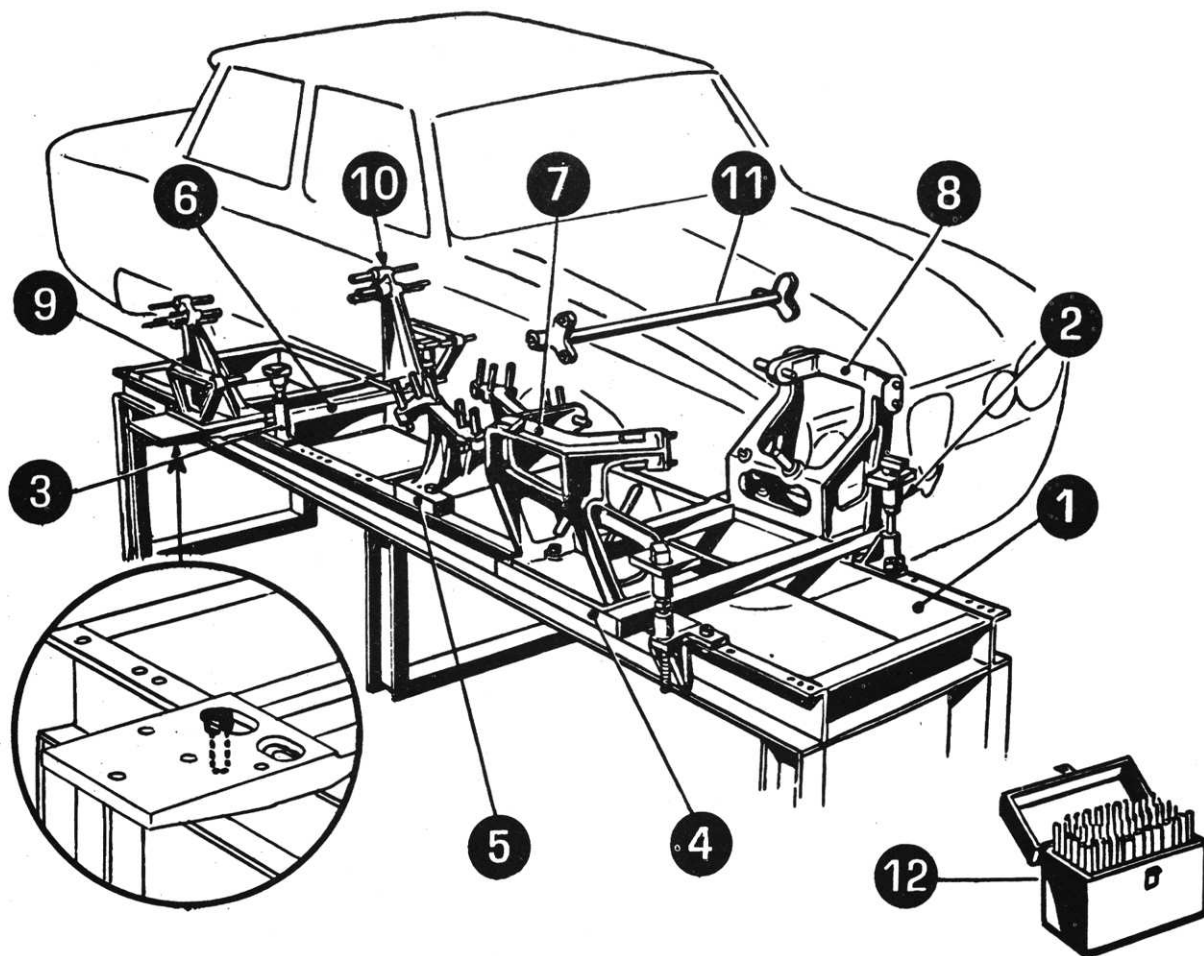
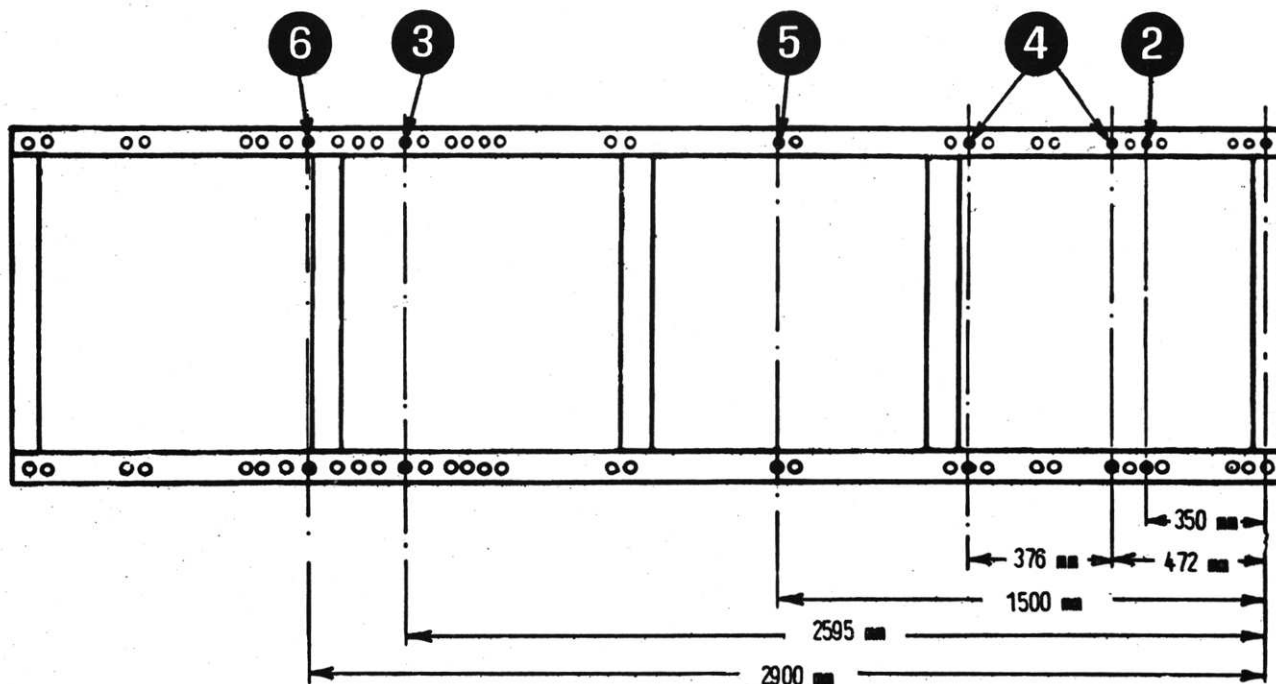
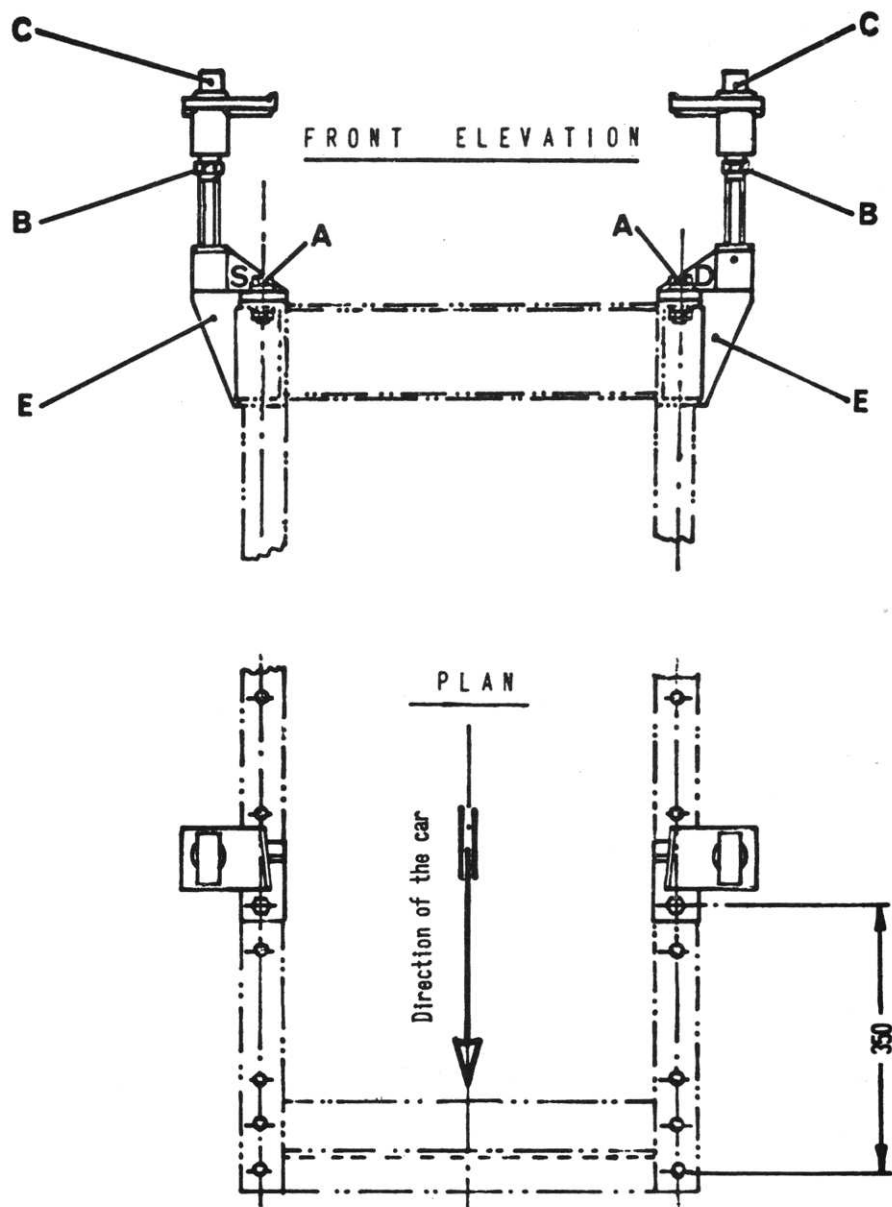
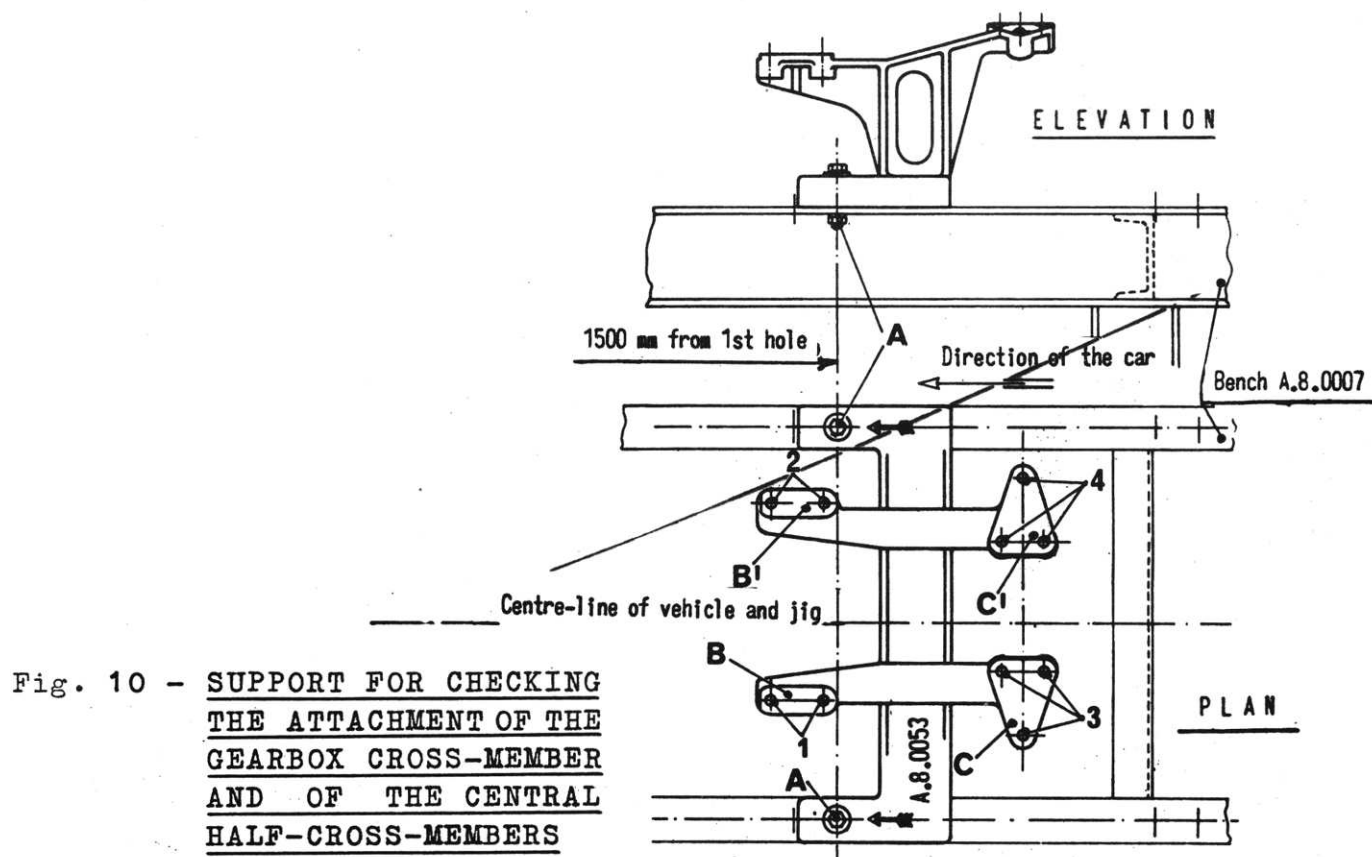

Fig. 1 - ASSEMBLY FOR CHECKING GIULIA TI AND GIULIA TI SUPER CHASSIS
Fig. 2 - PLAN OF DETAIL ① WITH LOCATION OF THE HOLES TO BE EMPLOYED
Fig. 5 - FRONT JACKS A.8.0016
Fig. 10 - SUPPORT FOR CHECKING
Fig. 1 gives a general picture of the complete jig for checking GIULIA TI chassis, and fig. 16 for GIULIA Sprint GT.
In the figs. 2 and 17 are shown detailed plans of the benches only (details (1)) with particulars of the location of the cross-members, jacks and supports for the GIULIA TI and GIULIA Sprint GT respectively.
The jig (figs. 1 and 16) consists of:
- one welded steel bench (shown in fig. 1 as No. 1)
(ref. 1 of fig. 1)
(ref. 12 of fig. 1)
For the precise and easy identification of the holes as shown in fig. 2 it is advisable to mark them with a different colour paint for each type of chassis.
(ref. 2 of fig. 1)
They must be fitted in the position shown in figure 2 and secured with the bolts **A** as shown in fig. 5.
For the 105 bodies (GIULIA TI, GIULIA Sprint GT, etc.) the jack marked with the letter "**S**" should be fitted on the right-hand side, and the one marked with the letter "**D**" on the left-hand side, as shown in fig. 5. They must be completed with the detachable flange **C**.
Check that, as shown in fig. 5, the rib **E** of the base is towards the outside of the bench.
3.4 REAR JACKS (ref. 3 of fig. 1)
Their position on the jig is shown in fig. 2; for the means of securing see fig. 6.
3.5 FRONT CROSS-MEMBER (ref. 4 of fig. 1)
To determine its position on the bench see fig. 2; to lock, tighten bolts **A** (fig. 7). Before locking, it is advisable to ensure, by means of a set-square **B** the trueness of the cross-member on the longitudinal beams of the bench: the success of the entire checking operation depends on the correct positioning of the cross-member.
To determine its position on the bench, see fig. 2. To lock, tighten bolts **A** using the third slot as shown in the inset of fig. 1 and fig. 8; this slot is marked with the number 105.14.
The holes **D** and **D'** are employed for fitting the cross-members A.8.0055 (ref. 10 of fig. 1) and A.8.0054 (ref. 9 of fig. 1), respectively.
3.7 CENTRAL SUPPORT (ref. 5 of fig. 1)
For its location on the bench see fig. 2. Lock the support to the bench by means of bolts **A** indicated in fig. 10 which shows the support in plan and elevation.
Having completed the adjustment and tightened bolts **A** (see fig. 6) lower the body by means of the adjusters **B** of the four jacks simultaneously (figs. 5 and 6) in order to leave a gap of
4.3 FITTING THE SUPPORTS FOR CHECKING THE SUSPENSIONS (refs. 7, 8, 9 and 10 of fig. 1)